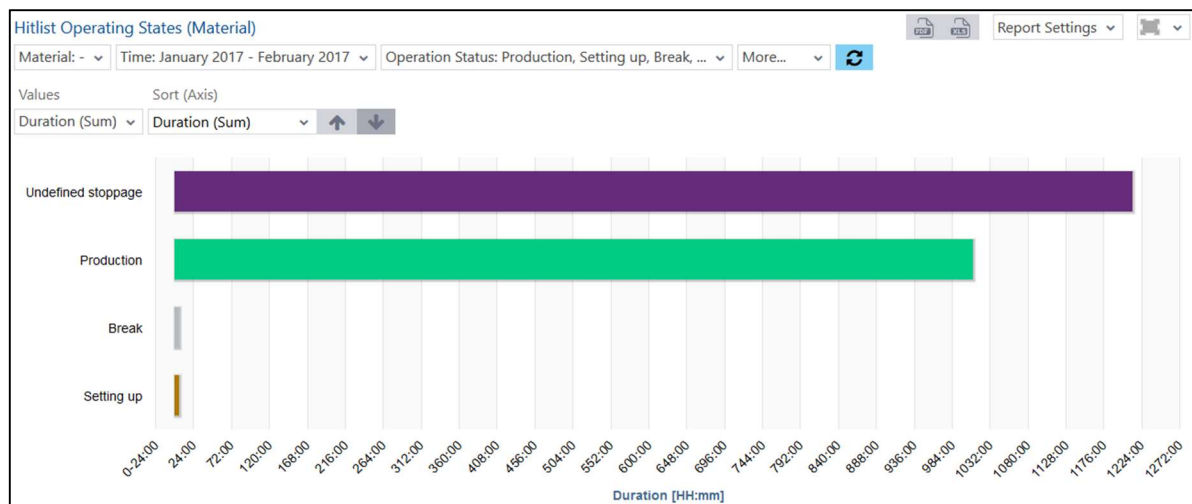

Fig. 71: Hitlist Operating States (Material) as a bar chart
- Hitlist Operating States (Material) as a bar chart (Fig. 71):